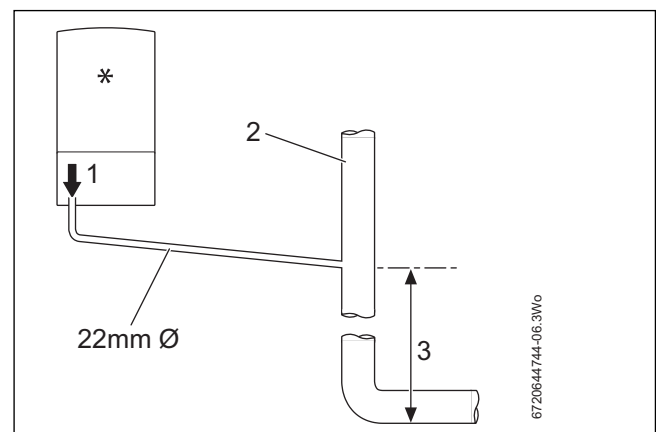

Fig. 10 Disposal to soil vent stack
**Key to condensate illustrations, figures 10, 11 & 12**